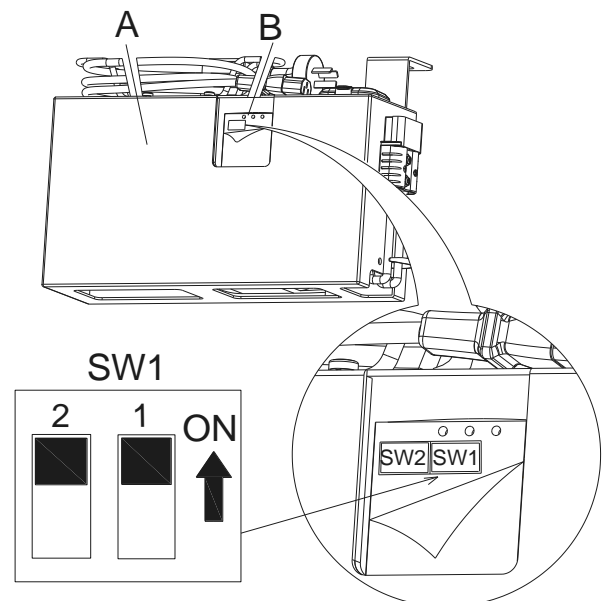

Figure 7
1. Turn off the machine and disassemble the On-board charger (A, Figure. 7) from the machine. Then pry open the label on the charger cover (B, Figure.7) you will find the 2 sets of dipswitches (SW1 and SW2) in the charger.